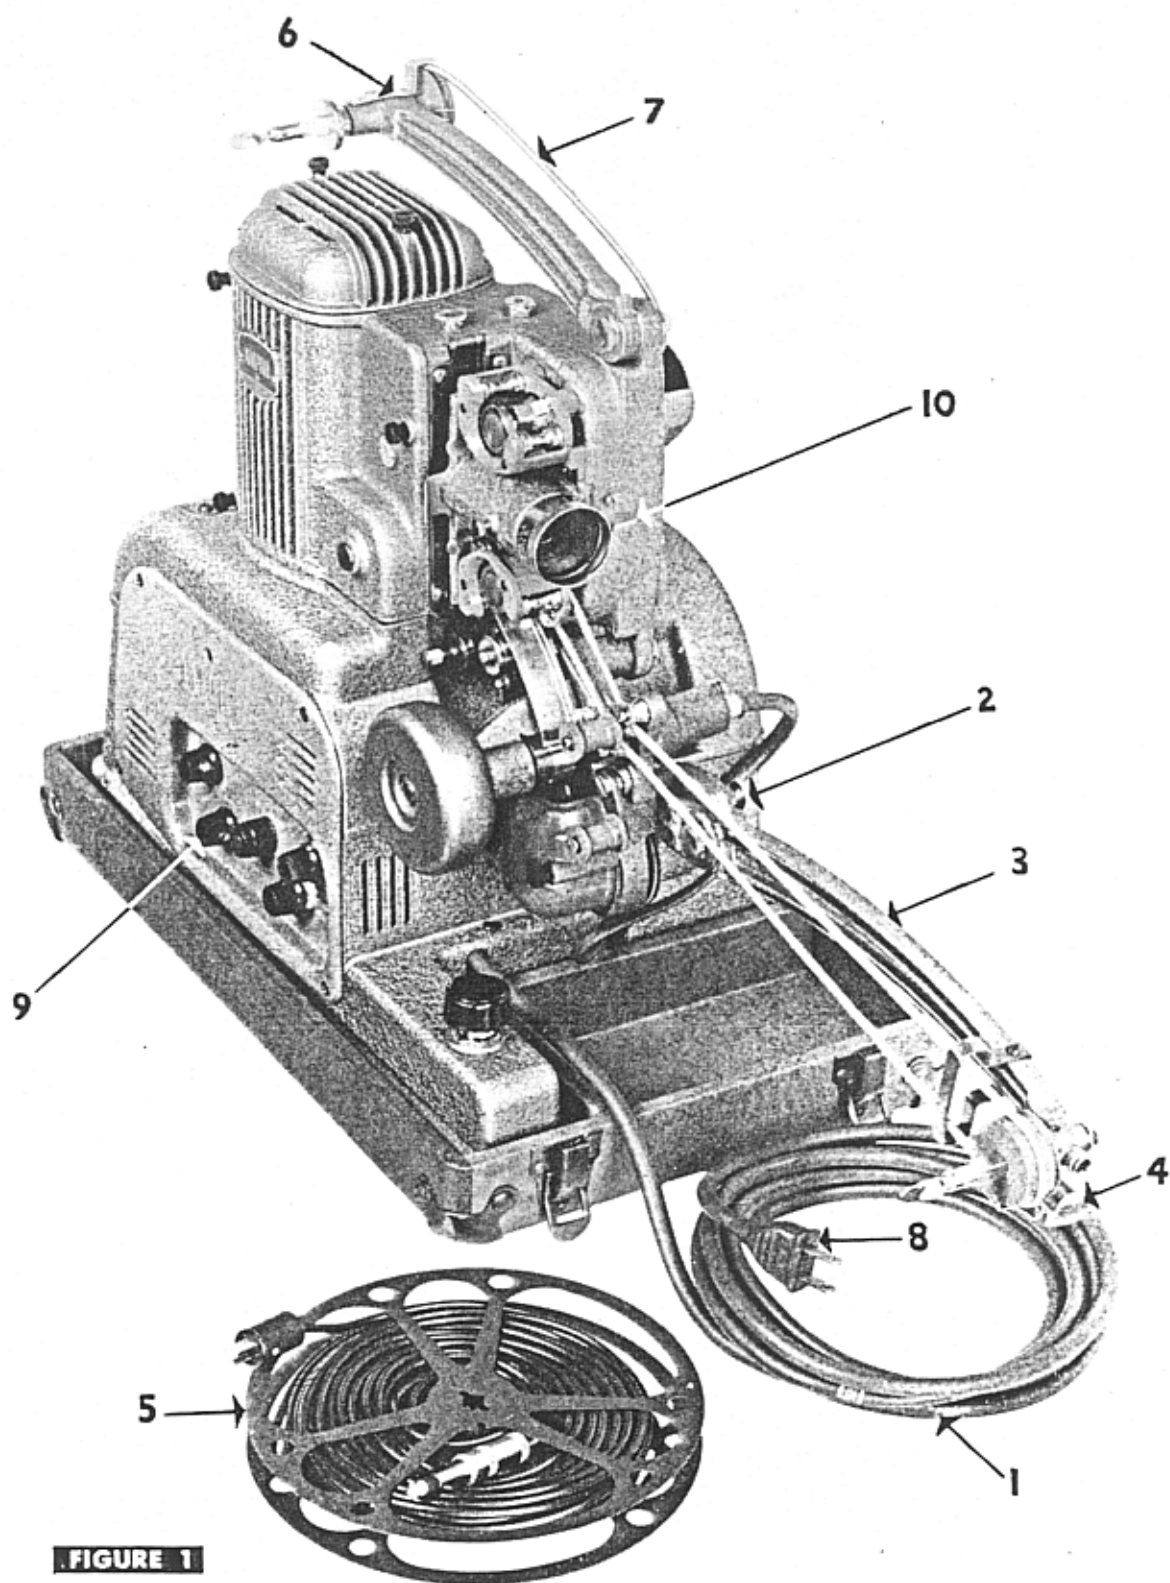

FIGURE 1
3. Uncoil the line cord (1 Fig. 1). Pull outward on the reel arm lock pin (2) and swing the takeup reel arm (3) downward into position. If reels having a capacity of less than 800 ft. are to be used, position the arm so that the lock pin engages the upper hole in the arm. (See Fig. 1.) If reels having a capacity of 800 ft. or more are to be used, position the arm so that the pin engages the lower hole in the arm. **Also move the projector to the front of the stand or table so that the larger reels will clear the edge.** Move the belt shifter (4) to the forward position as indicated.
4. Remove the 400 ft. reel and speaker cable (5 Fig. 1) from the clips which hold it in place inside the top portion of the case.
5. Swing the feed reel arm (6 Fig. 1) to the forward position. Make sure that the rewind belt (7) is in the groove of the spindle pulley.
6. Connect the line cord plug (8 Fig. 1) to the nearest outlet supplying 105-125 volts AC or DC current and turn on the "VOLUME CONTROL" (9 Fig. 1).
4. Lift up on the gate lever (10 Fig. 1).
12. Make sure that the film lies in the recessed portion of the film gate, then push down on the gate lever (10 Fig. 1) thereby closing the film gate and the sprocket shoes.
2. If the projector is to be moved or put away disconnect the line cord, fold back the upper and lower reel arms, remove the phone plug from the speaker jack and wind the speaker cable on the reel (5 Fig. 1) as indicated.
- a. Before each show, lift the gate lever (10 Fig. 1) in order to open the gate, then pull out the pressure shoe carrier (1 Fig. 6). Clean the pressure shoe and aperture plate, using either the cleaning brush or a soft cloth.